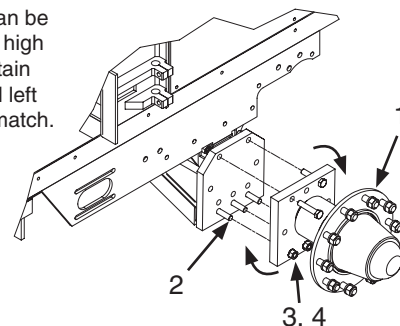

Figure 2-3-3 - Mounting Hub to Axle
D. (See Figure 2-3-3) Place (7) Item 2 Bolts through the axle and spindle. Place (1) Item 1 Spindle onto the axle. Torque all nuts and bolts as per torque chart on page 2-3-1.